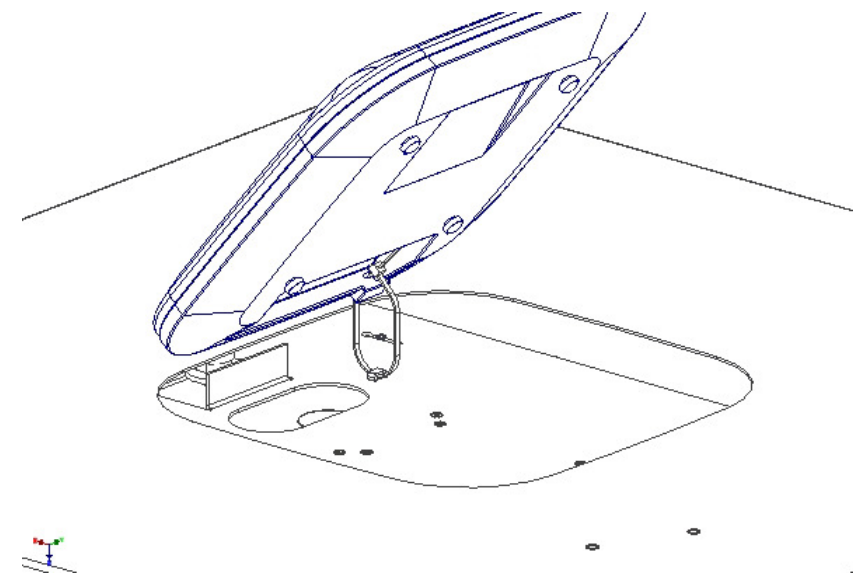

Figure 3 – Loosely attach the cable tie
Step 3 - Loop the cable tie through the tether anchor located on the mounting plate of the enclosure and lock the cable tie loosely (reference Figure 3).